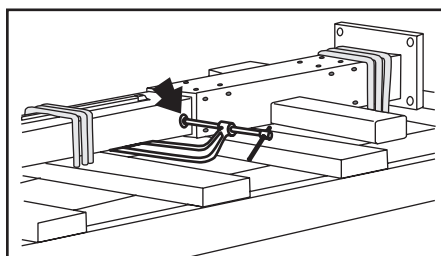

Figure 7
3. Install a C-clamp on the column as shown (Figure 7) to prevent the slide assembly from moving during assembly.